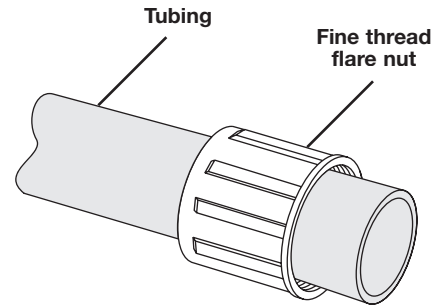

Fig. 1
4. Insert the cut end of the tubing through the fine thread flare nut. See Fig. 1.